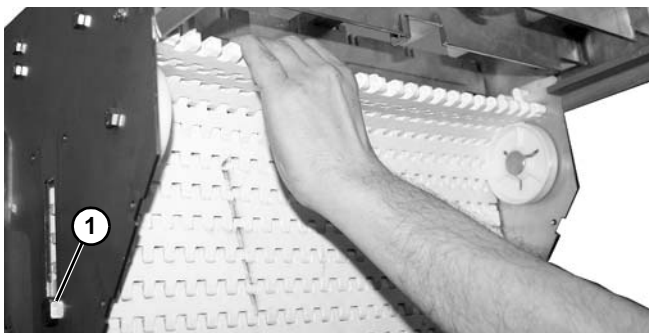

Figure 92
7. Remove the end of the belt from around the gravity take-up (**Figure 92, item 1**).